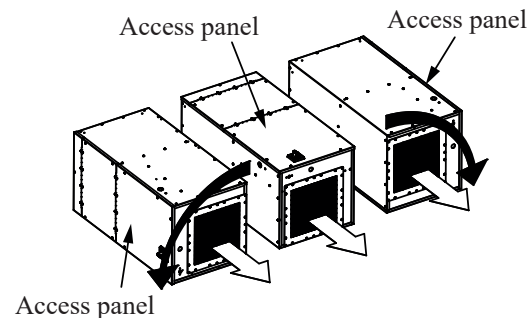

Figure 3
- 4- Install the unit on adequate supports under the unit (non supplied), adapted to the load (at least 400 lb) and with a minimum width of 1 1/4 in. (32 mm) (Figure 3).
- 5- Pay attention to the outlet air direction (Figure 3).
- 7- Make sure to install supports to keep access to internal components for servicing and keep a minimum distance of 12 in. (305 mm) between the acces panel and supports. Take care to position the supports to keep access to the opening of the filter access panel (Figure 3).
- 3- Install the unit on adequate supports under the unit (non supplied), adapted to the load (at least 400 lb) and with a minimum width of 1 1/4 in. (32 mm) (Figure 3).
- 5- Make sure to install supports to keep access to internal components for servicing and keep a minimum distance of 12 in. (305 mm) between the acces panel and supports. Take care to position the supports to keep access to the opening of the filter access panel (Figure 3).
- Make sure that the fan rotates in the correct direction; airflow should be in the direction of the arrow such as indicated (Figure 3).